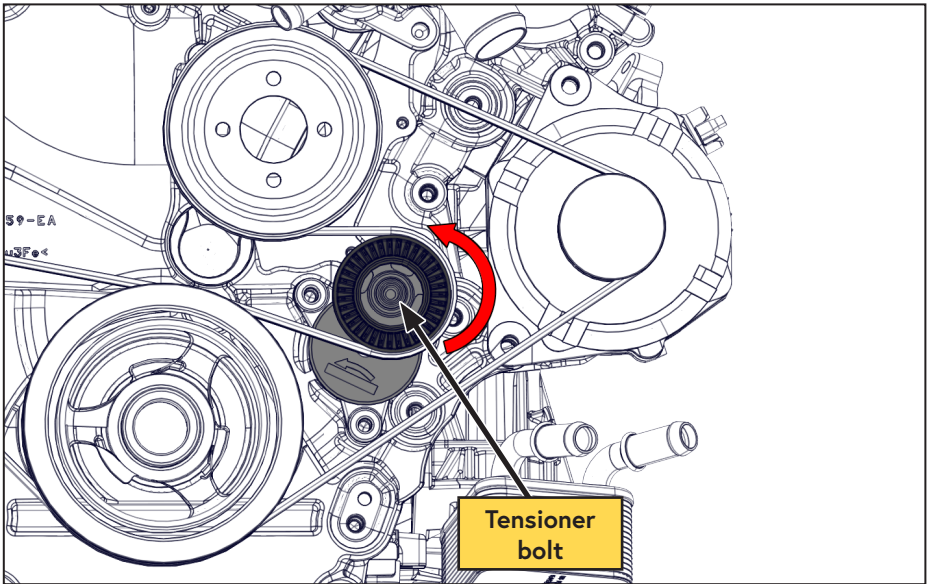

Figure 14 — Remove 6 rib belt from crank pulley
- From underneath the vehicle, use a 15 mm serpentine belt wrench to release the tension and remove the OEM 6 rib belt from the crank pulley. Tuck the belt out the way (Figure 14).